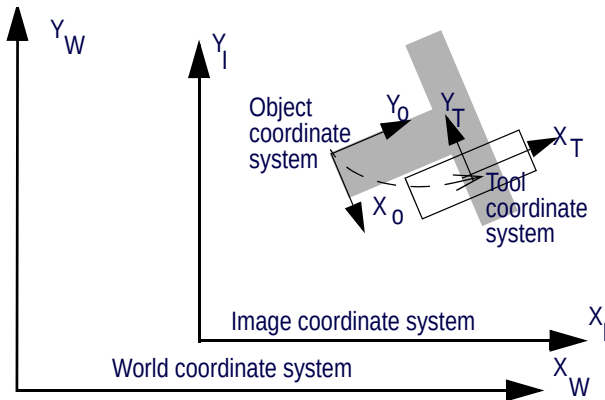

Figure 236 Model-Based Mode: Relationship between Tool and Object Coordinate Systems
- **Positioning coordinate system:** The Model-based mode is designed for the inspection of randomly oriented parts. The coordinate system used to position the tool is the Object coordinate system defined in the Model, as shown in Figure 236.